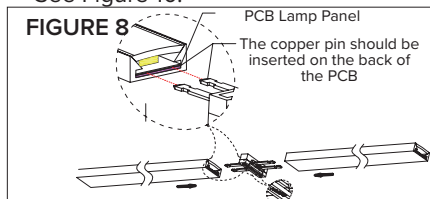

FIGURE 9
3. Press the pin block and Hybrid 3 COB into the splice kit's pedestal, then place the cover over the pedestal. See Figure 9.